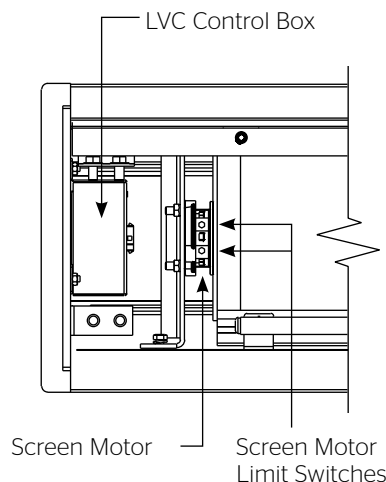

Figure 2
3. Remove the square peg bracket from the motor end of the roller assembly (Figure 2).
7. Complete electrical hook-up by snapping motor 1/3 wire connectors into case connectors (Figure 2).